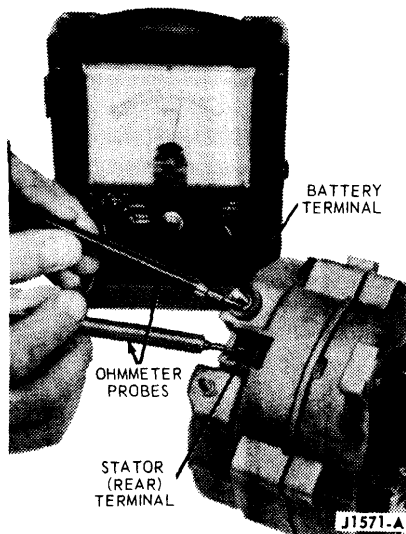

FIG. 8 Rectifier Short or Grounded and Stator Grounded Test
1. Contact one ohmmeter probe to the alternator BAT terminal (Fig. 8) and the other probe to the STA terminal (rear blade terminal). Then, reverse the ohmmeter probes and repeat the test. A reading of about 60 ohms should be obtained in one direction and no needle movement with the probes reversed. A reading in both directions indicates a bad positive diode, a grounded positive diode plate or a grounded BAT terminal.